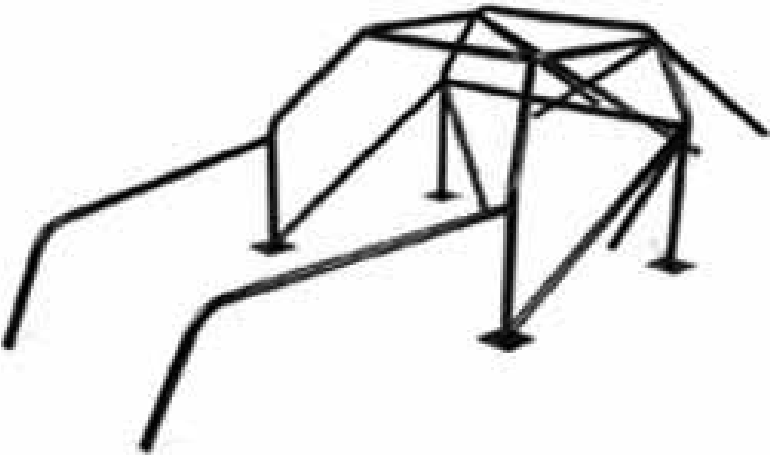

Figure 2
A minimum five (5) point roll cage is required if the hoops and bars are mounted to the shoulder bar as in a lakester or roadster cage. The roll cage bars must be adequately supported, cross braced and gusseted to prevent forward or lateral collapse. Gussets are required at tube junctions of hoop and shoulder rail. Gussets shall either be made of plate, tubing or fabricated from sheet. Plate gussets shall be made from mild steel .125 minimum thickness and 4 inches per side, preferably stitch welded on the outside of the tube junction. Tube gussets shall be a minimum .120 in. nominal wall thickness although it is recommended that tube gussets be of the same O.D. and wall thickness as the main roll cage material. Tube gussets shall be constructed such that the outside edge of the tube gusset be at least 4 in. from the tube junction point, see Figures 2, 3, 4, and 5. Gussets are required at all shoulder bar attachment points. Grinding welds is NOT permitted. Gussets may not be used as aerodynamic aids and shall not exceed 6 in. in length without prior technical review and board approval.